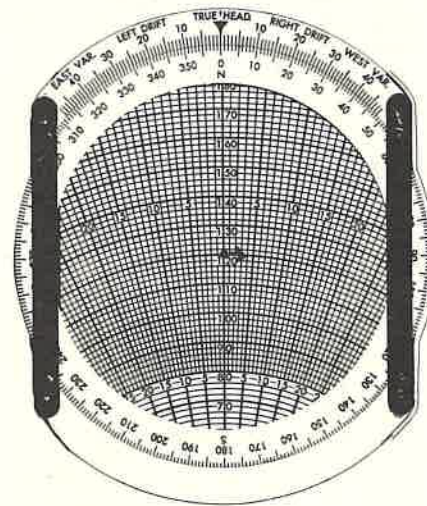

FIG. 8b
7. Move slide placing grommet on distance left to fly (120 miles). (See Fig. 8b)